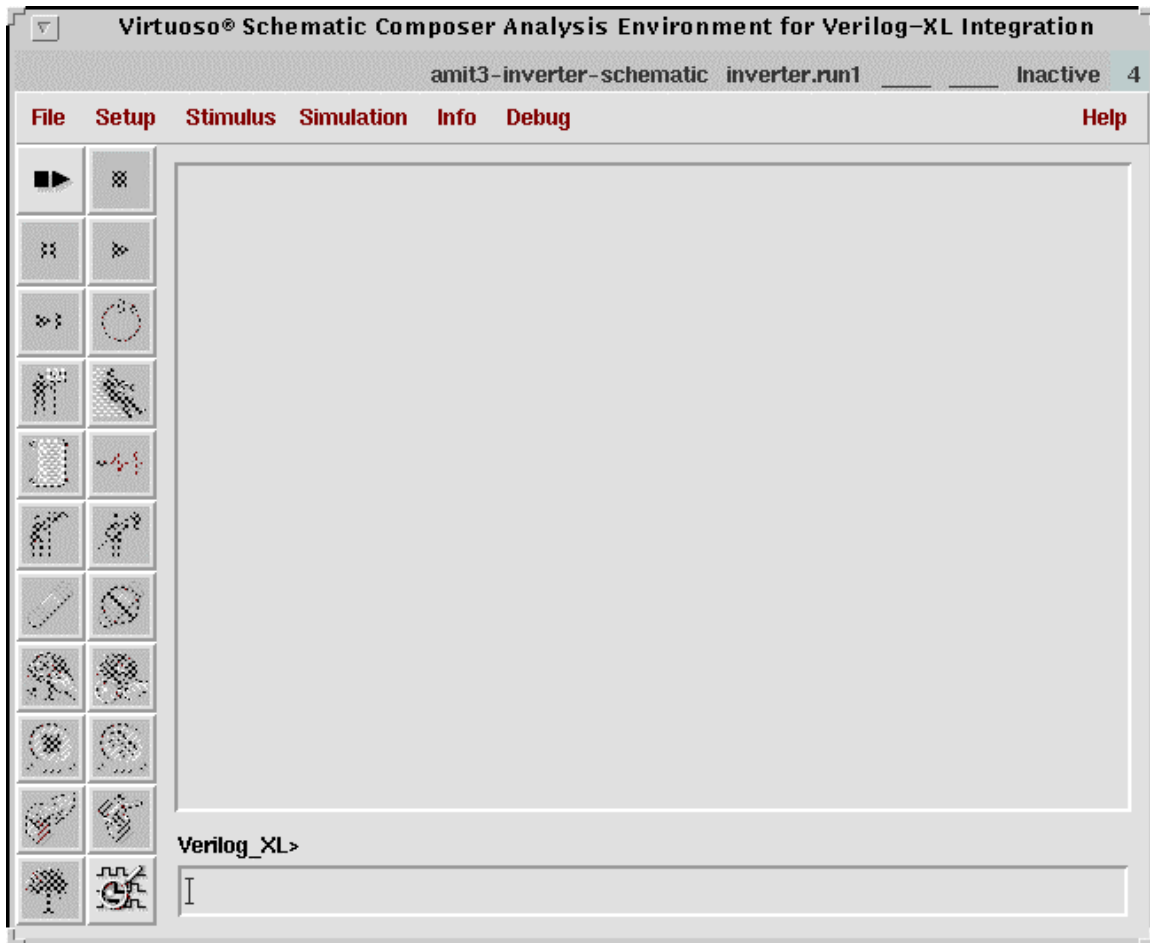

Fig 4: Environment for Verilog-XL Integration
- d. The “Virtuoso Schematic Composer Analysis Environment for Verilog-XL Integration” window opens as shown in Fig 4 and the inverter.run1 directory is created.
- In Fig 4 set the netlisting options by selecting **Setup** -> **Netlist**. The “Verilog Netlisting Options” form opens as shown in Fig 5.